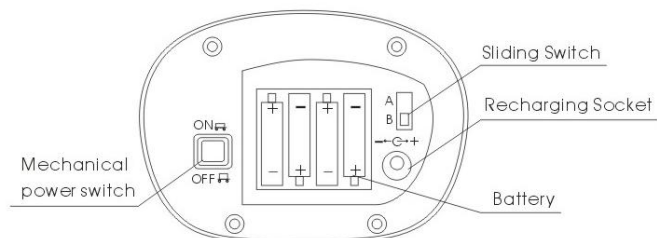

Figure 3
- a) Open the back cover of the scale casing (see Figure 3).
- a) Open the scale back cover (see Figure 3) to connect the charger adaptor. And then connect the power for the adaptor.